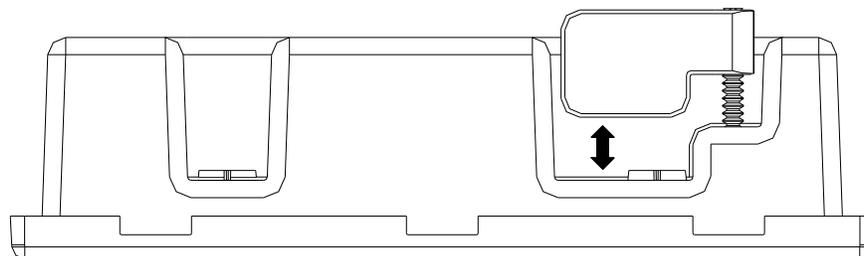

Figure 4
- b. Locate the retaining flange screws in the upper right and lower left corners. Turn the screws counterclockwise until the gap between the retaining flange and the housing flange is wider than the wall (see Figure 4).